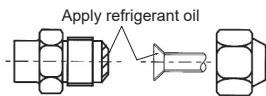

Fig. 7-2
- 3) Apply refrigerant oil on the flared seat. (Fig. 7-2)